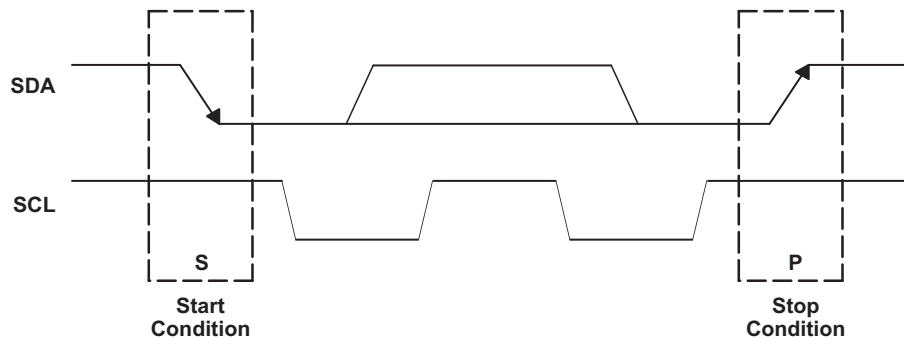

Figure 71. I²C Start and Stop Conditions
The basic I²C start and stop access cycles are shown in Figure 71.
- The master initiates data transfer by generating a start condition (S). A start condition exists when a high-to-low transition occurs on the SDA line while SCL is high, as shown in Figure 71. All I²C-compatible devices should recognize the start condition.
- To signal the end of the data transfer, the master generates a stop condition (P) by pulling the SDA line from low to high while the SCL line is high (see Figure 71). This releases the bus and stops the communication link with the addressed slave. All I²C-compatible devices must recognize the stop condition. Upon the receipt of a stop condition, all devices know that the bus is released, and they wait for a start condition followed by a matching address.